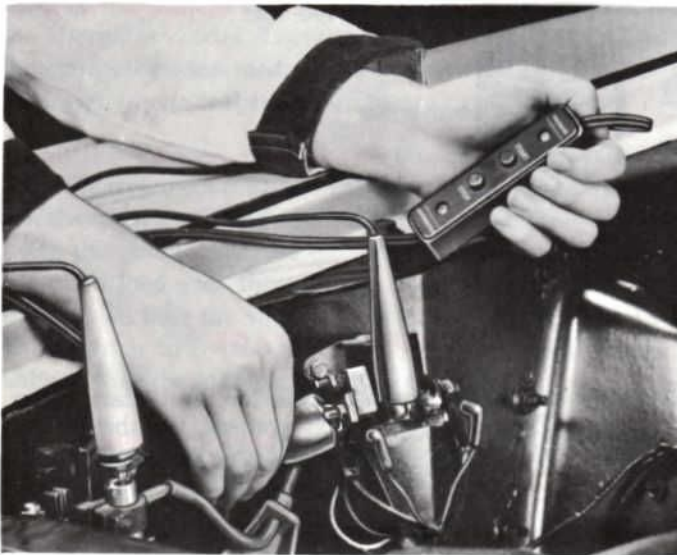

Figure 5—Remote Starter Connection
3. Connect a remote starter button between the "S" terminal and the battery terminal (Figure 5).